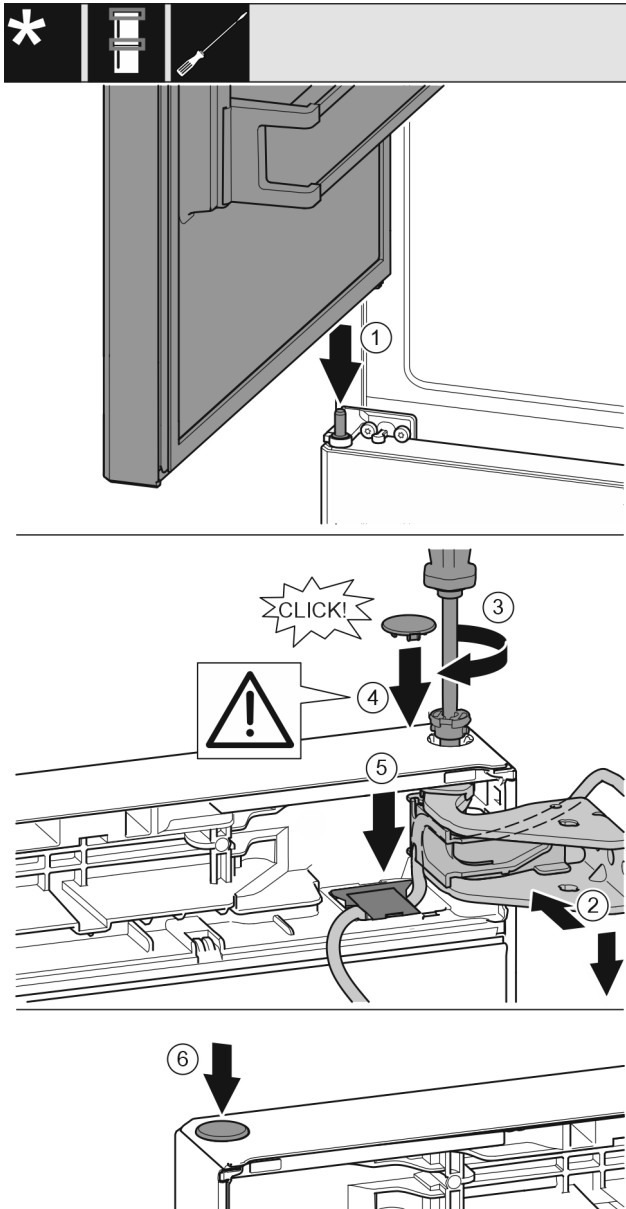

Fig. 42
- ▶ Place the upper door on the center bearing pins Fig. 42 (1)
- ▶ Align the top of the door with opening in the bearing bracket. Fig. 42 (2)
- ▶ Insert the bolt and tighten with a T15 screwdriver. Fig. 42 (3)
- ▶ Fit the protective cover to protect the door: Insert the protective cover and check that it lies flush on the door. If not, insert the bolt fully. Fig. 42 (4)
- ▶ Insert the cover and press it down until it latches into place. Fig. 42 (5)
- ▶ Insert the plugs. Fig. 42 (6)